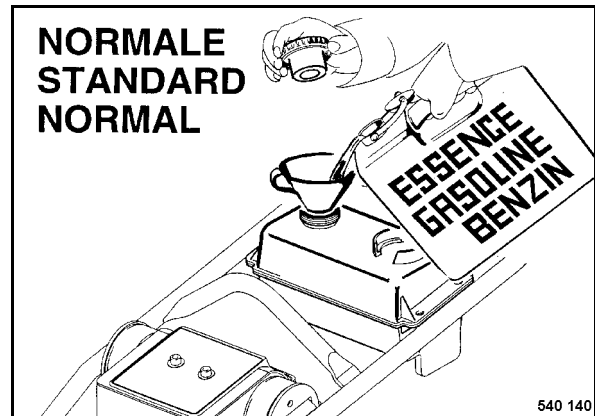

Fig. 36
- Clean the area around the filler cover, unscrew the filler cover (Fig. 36).